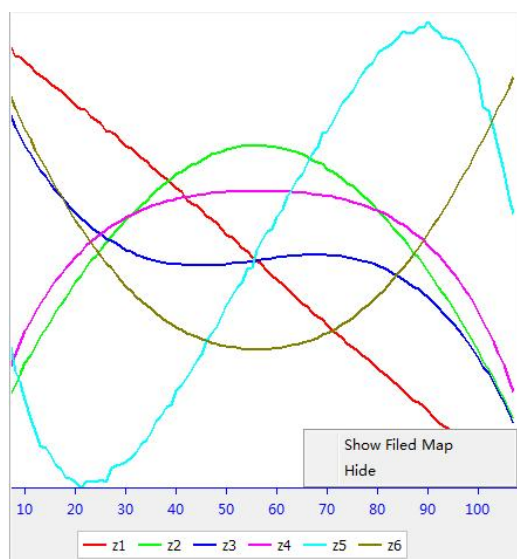

Figure 2.28 Shim map view box
- (3) At the end of making field map, a window will be open shown the new map (Figure 2.28). Right-clicking over it then select Show Field Map, or double-clicking the map, will open a window showing the map in the workspace area as in the case of using existing map (Figure 2.24).